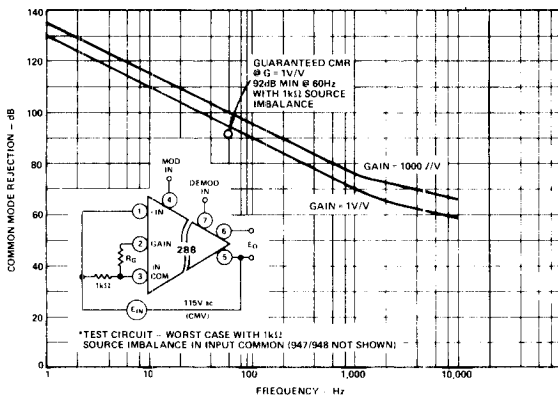

Figure 13. Common Mode Rejection vs. Frequency
**Common Mode Rejection:** Input-to-Output CMR is dependent on source impedance imbalance, signal frequency and amplifier gain. CMR is rated at 115V ac, 60Hz and 1k $\Omega$  imbalance at a gain of 1V/V. Figure 13 illustrates CMR performance as a function of signal frequency and gain. CMR approaches 130dB at dc with source imbalances as high as 1k $\Omega$  in the INPUT COMMON lead (worst case condition).